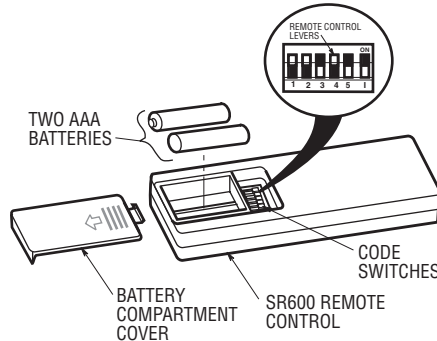
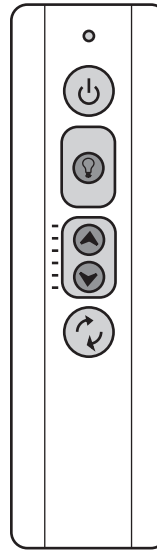

Figure 16
Figure 18
1. Remove the battery cover by pressing firmly below the arrow and sliding the cover off the control (Figure 16).
Your remote control has code switches which must be set in one of 32 possible code combinations (Figure 16). The five levers (numbered 1, 2, 3, 4, and 5) on the switches are factory-set in the ON (up) position. Change the switch settings as follows (Figure 18):